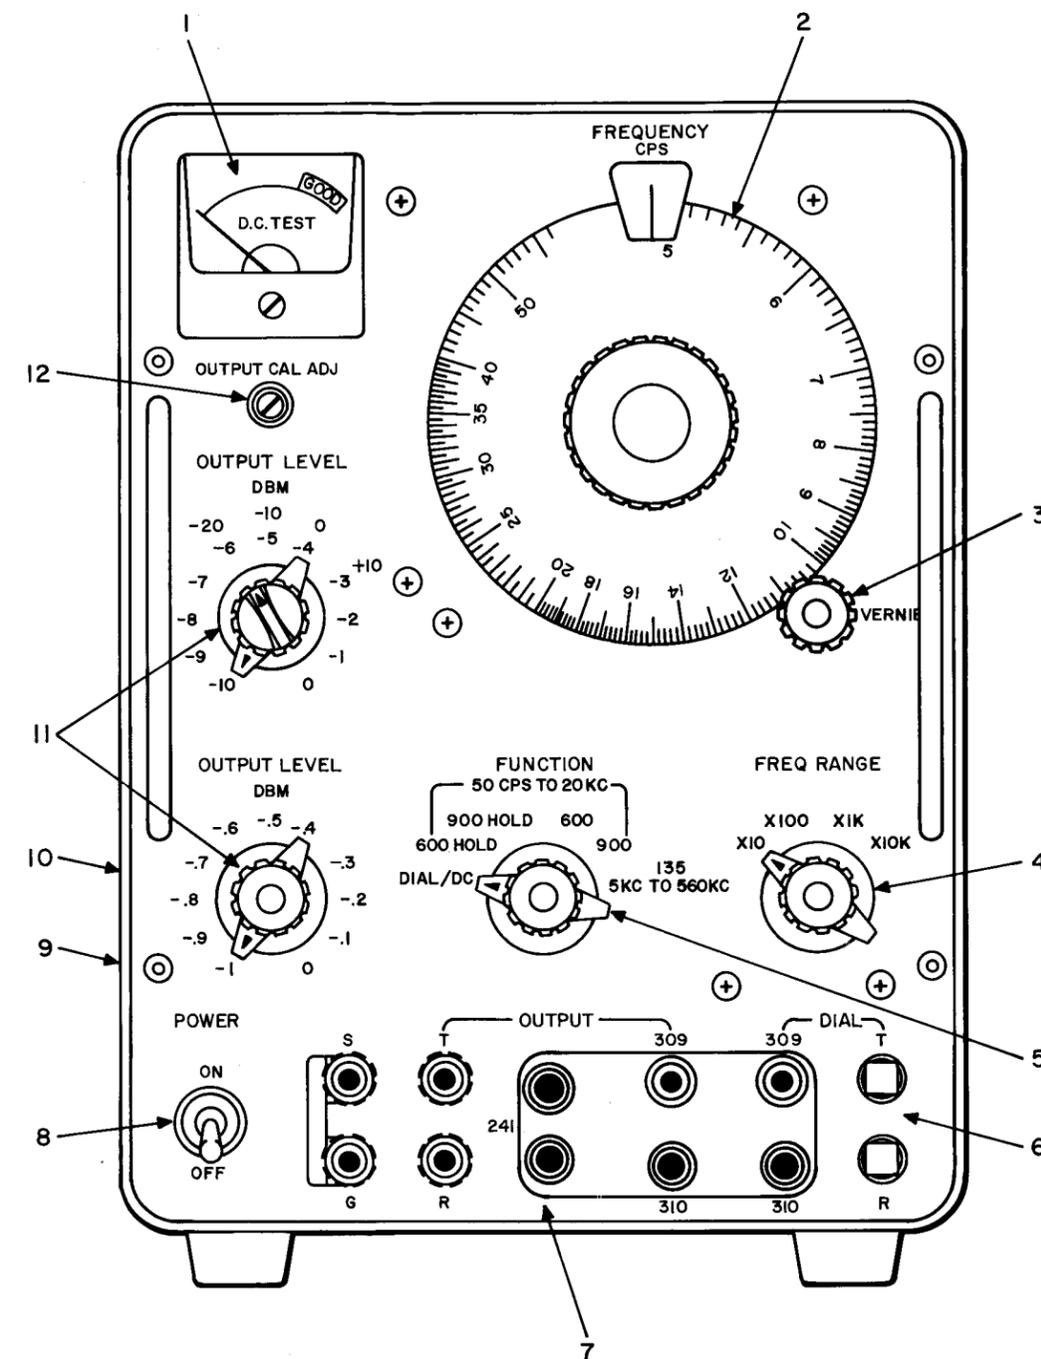

Fig. 4-24—KS-19353, L4 Oscillator
**KS-19353 L4 Oscillator (Fig. 4-24)**